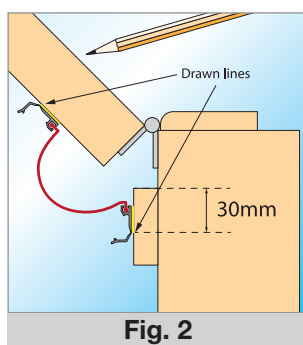

Fig. 2
- 6 Remove tape backing from door side rigid profile and stick in position with outer edge on drawn line (see fig 2)
- 7 Remove tape backing from other rigid profile and stick in position on door jamb (see fig 2)